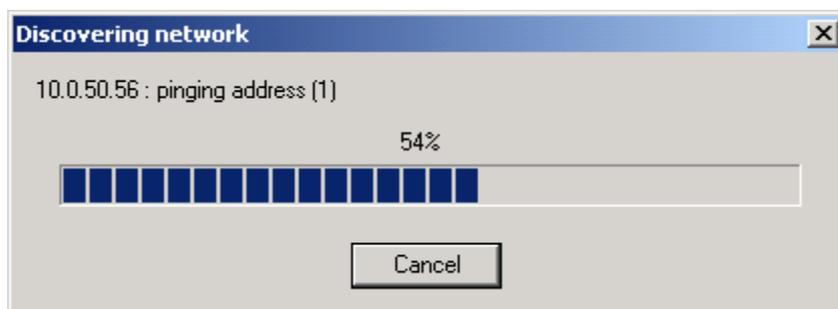

Fig. 41. Searching progress
- 2 Click on “OK” and the following dialog box shall display the searching progress (Fig. 41)